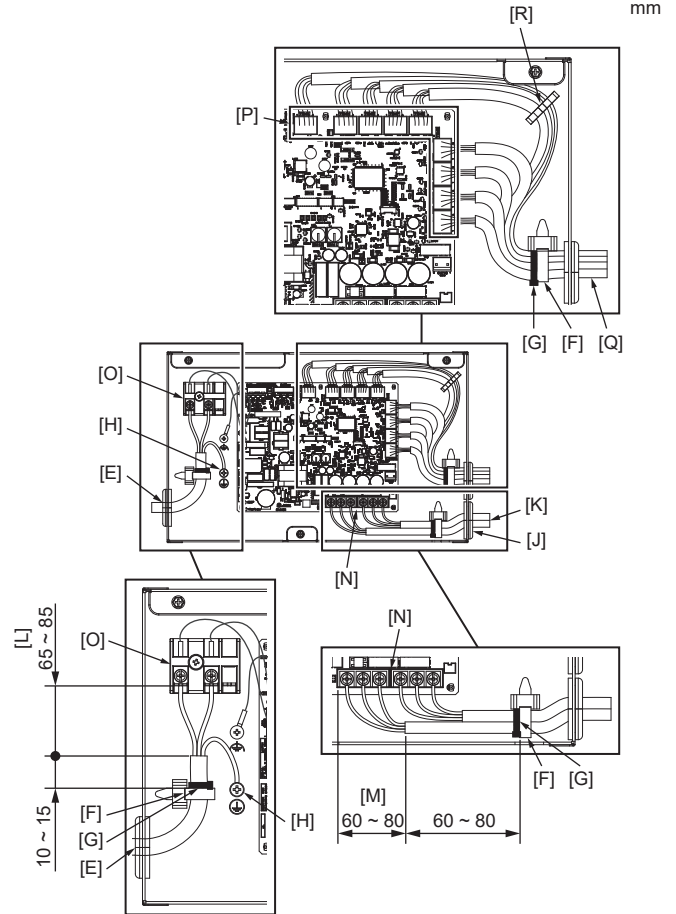

Fig. 5-7
- (2) Pass and wire the power cable and the ground wire through the wires entries given in the diagram. (Fig. 5-7)
- (3) Pass and wire the M-NET cable through the wiring entries given in the diagram. (Fig. 5-7)